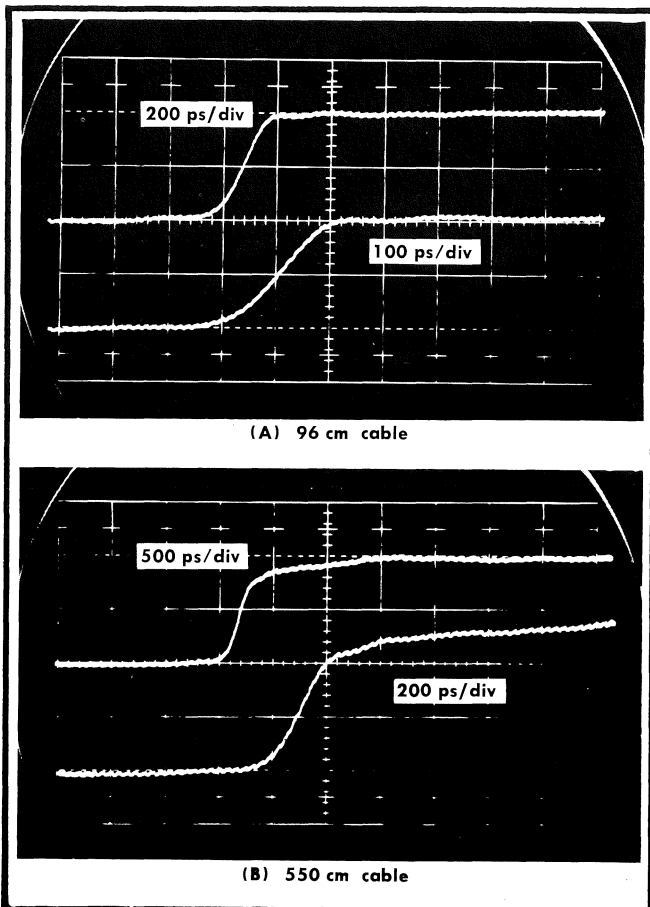

Fig. 2-17. "Dribble up" characteristics of two lengths of RG8A/U.
3. That the transmission line high frequency losses classed as "skin effect" or "dribble up" are not significant. ("Dribble up" is explained under Measuring Technique in connection with Fig. 2-17);
Fig. 2-17 shows the degradation of the Type 1S2 incident signal pulse by two different lengths of RG8A/U coaxial cable. Fig. 2-17A is the reflection from an open cable 96 cm long, (192 cm signal path) and Fig. 2-17B is the reflection from an open cable 550 cm long (1100 cm signal path). The upper waveform in each case was made with the Type 1S2 VERTICAL UNITS/DIV control set to $0.5 \rho/\text{DIV}$, calibrated. The lower waveform in each case was made with the Type 1S2 vertical VARIABLE control advanced slightly clockwise to approximate a deflection factor of $0.5 \rho/\text{DIV}$ for just the ramp portion of the waveform. In each case the signal continues to rise after the initial step, but Fig. 2-17B shows the "dribble up" characteristic very plainly. The lower waveform of Fig. 2-17A and B does not permit an accurate measurement of the system risetime because the waveforms as shown are not large enough. However, the upper waveforms of Fig. 2-18A and B are large enough to permit a reasonable measurement of the 10% to 90% risetime of the ramp that drives the small inductor. It is also obvious from Fig. 2-18A and B that the series inductor peak reflection is truly caused by just the ramp portion of the driving signal and not by the "dribble up" portion.